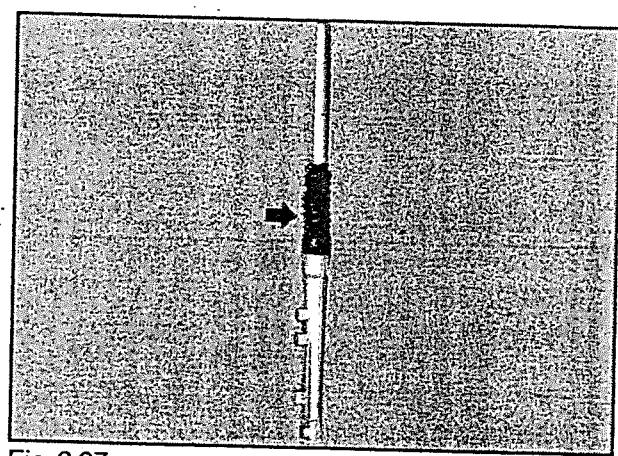

Fig 6.27
- Remove dust bellow (fig 6.27)